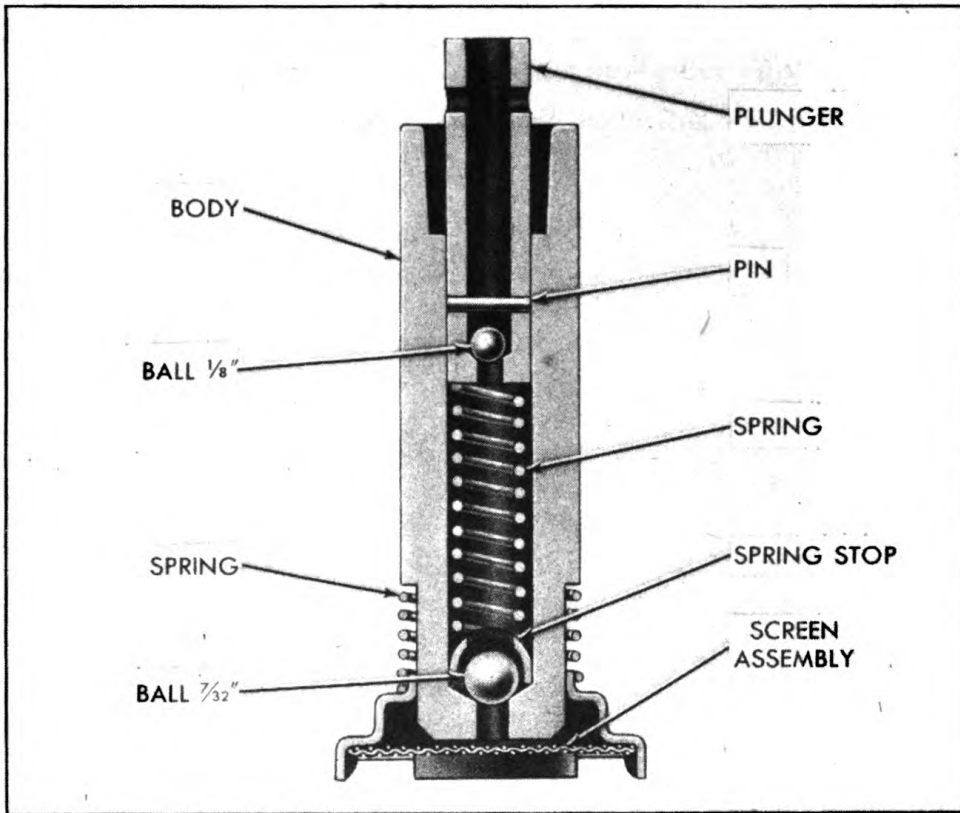

Figure 33—Oil Pump—Cross Sectional View
b. Disassembly, Inspection and Repair. (See figure 33.)
- (1) Remove in sequence, screen assembly, screen spring, plunger assembly, plunger spring, spring stop, and check ball.
- (2) Thoroughly clean all parts.
- (3) Inspection.
(1) Install in sequence, check ball, spring stop, plunger spring, plunger assembly, screen spring, and screen assembly, as shown in figure 33.